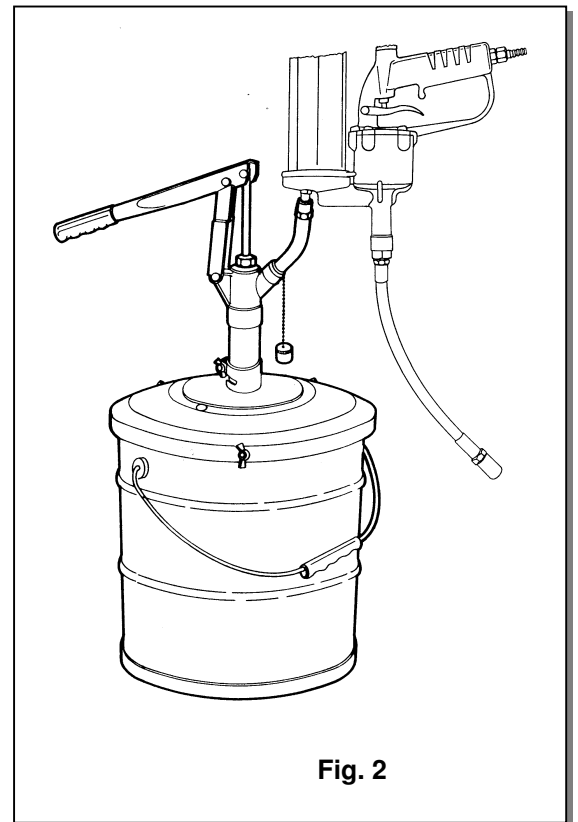

Fig. 2
The grease container can be filled manually or using a grease gun filler pump. To fill it with grease filler pump, connect the gun to the pump as showed in fig. 2. To fill the container manually, disconnect the quick coupler (4) and unthread the container. Push the piston (7) down to the bottom of the container and fill it with grease. Put back the filled container and connect the quick coupler (4).
Behållaren kan fyllas antingen manuellt eller med en påfyllningspump. För fyllning med påfyllningspump, anslut pistolen som visas i fig. 2.